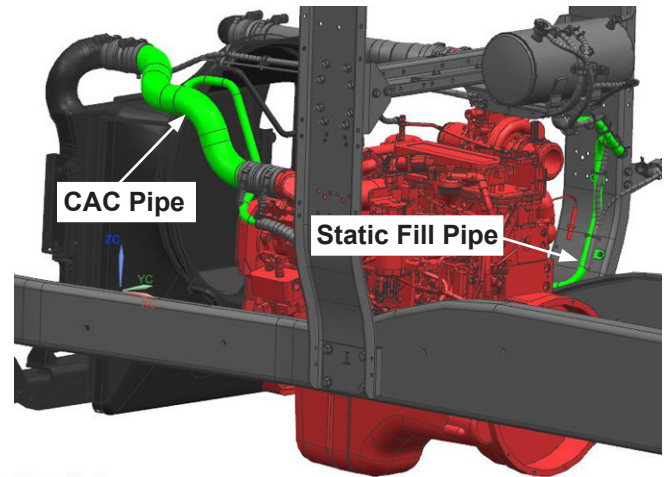

Figure 1
6. Remove and discard the CAC pipe by first loosening the T-Bolt clamps and then removing the tension clamp, and set aside for reinstallation (See Figure 1).
7. Install the new CAC pipe (A2190234-001) and tighten the T-Bolt clamps to 72 in-lb/6 ft-lb of torque. Reinstall the tension clamp (See Figure 1).
8. Remove the tension clamps from the static fill pipe and set aside for reinstallation (See Figure 1).
9. Remove and discard the static fill pipe (See Figure 1).
10. Install the new static fill pipe (A2120448-001). Reinstall the tension clamps (See Figure 1).